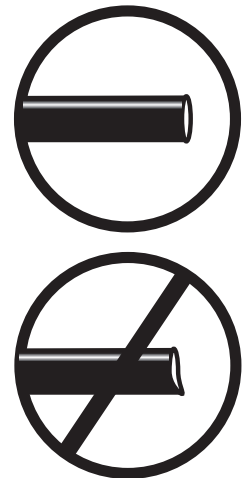

Fig. 6
- a. Check the air line connection by deflating the spring and removing the line by pulling the collar against the fitting and pulling firmly on the air line. Trim 1" off the end of the air line. Be sure the cut is clean and square (see fig. 6). Reinsert the air line into the push-to-connect fitting.
2. If the preceding steps have not resolved the problem, call Air Lift customer service at (800) 248-0892.